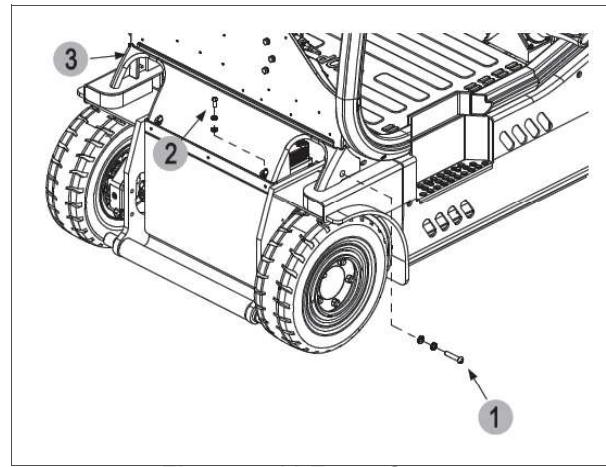

Figure 5-11 Front Cover
2. Remove the two screws (1, Figure 5-11).
3. Remove two screws (2).
4. Remove the front cover (3).